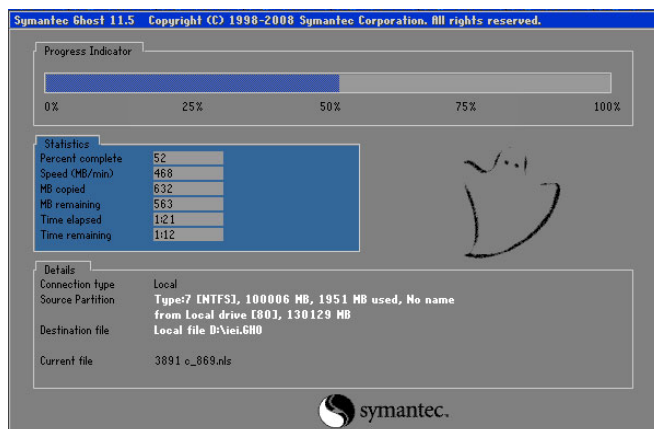

Figure B-19: Image Creation Process
Step 10: The Symantec Ghost starts to create the factory default image (Figure B-19).